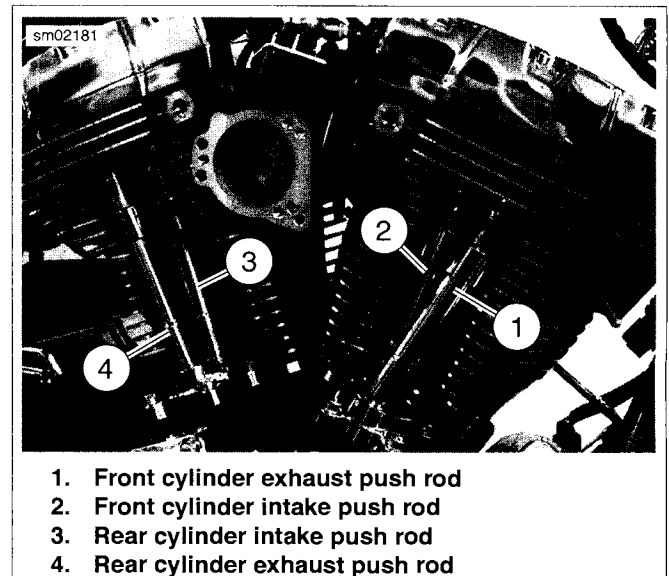

Figure 3-21. Push Rod Locations
1. See Figure 3-21. Remove the intake and exhaust push rods and push rod covers.